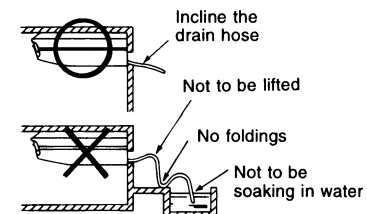

Fig. 24
- Keep the drain pipe short and sloping downwards at a gradient of at least 1/100 to prevent air pockets from forming. (Refer to Fig. 24)